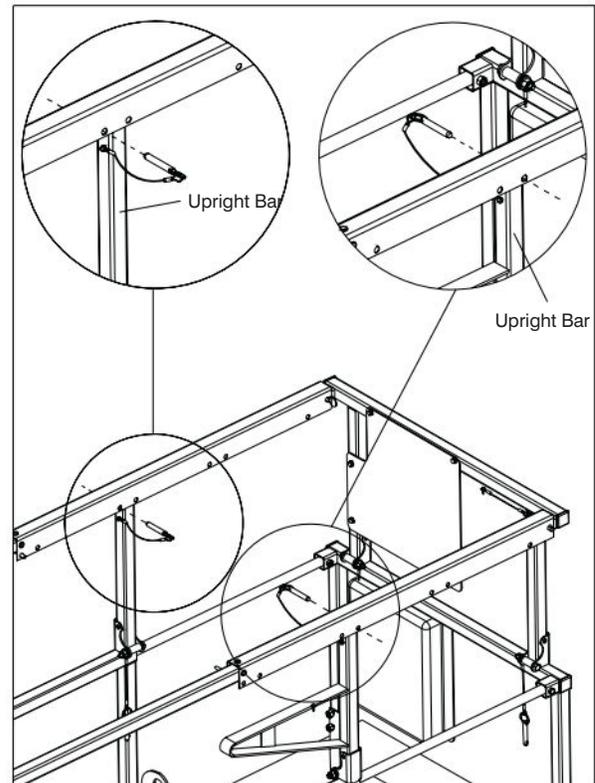

Figure 3-11. Variable Position Manual Extension Platform
- Upon extension or retraction, reinsert locking pins. Insert pin on one side of aerial platform in front of upright bar and the pin on the other side of aerial platform behind the upright bar to prevent accidental movement, in either direction, of manual extension platform during travel or transport. Refer to Figure 3-11 for a configuration example.